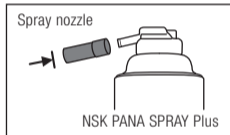

Fig. 20
- 1** Attach the spray nozzle included in the nozzle of the PANA SPRAY Plus (Fig. 20).